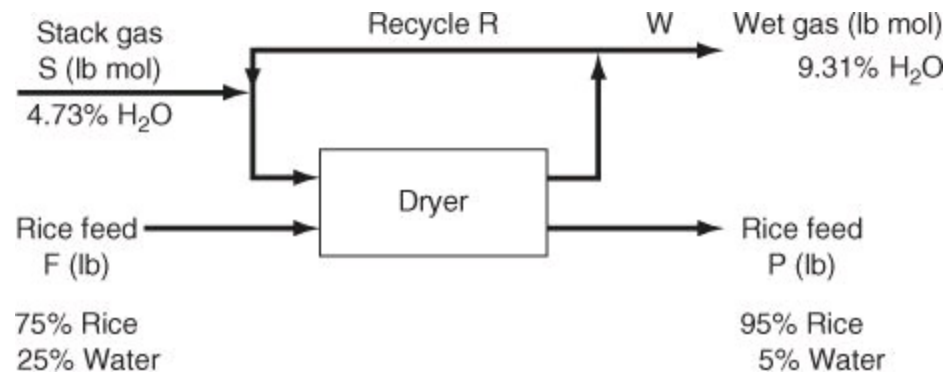

Figure P6.3.16
*****6.3.16.** To save energy, stack gas from a furnace is used to dry rice. The flowsheet and known data are shown in Figure P6.3.16. What is the amount of recycle gas (in pound moles) per 100 lb of P if the concentration of water in the gas stream entering the dryer is 5.20%?